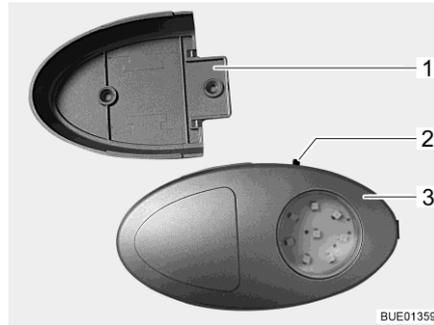

Fig. 72 Wardrobe light/torch
- ▷ The wardrobe light can be removed from its holder (Fig. 72,1) and used as a torch.
The On/Off switch (Fig. 72,2) is located directly on the wardrobe light (Fig. 72,3).